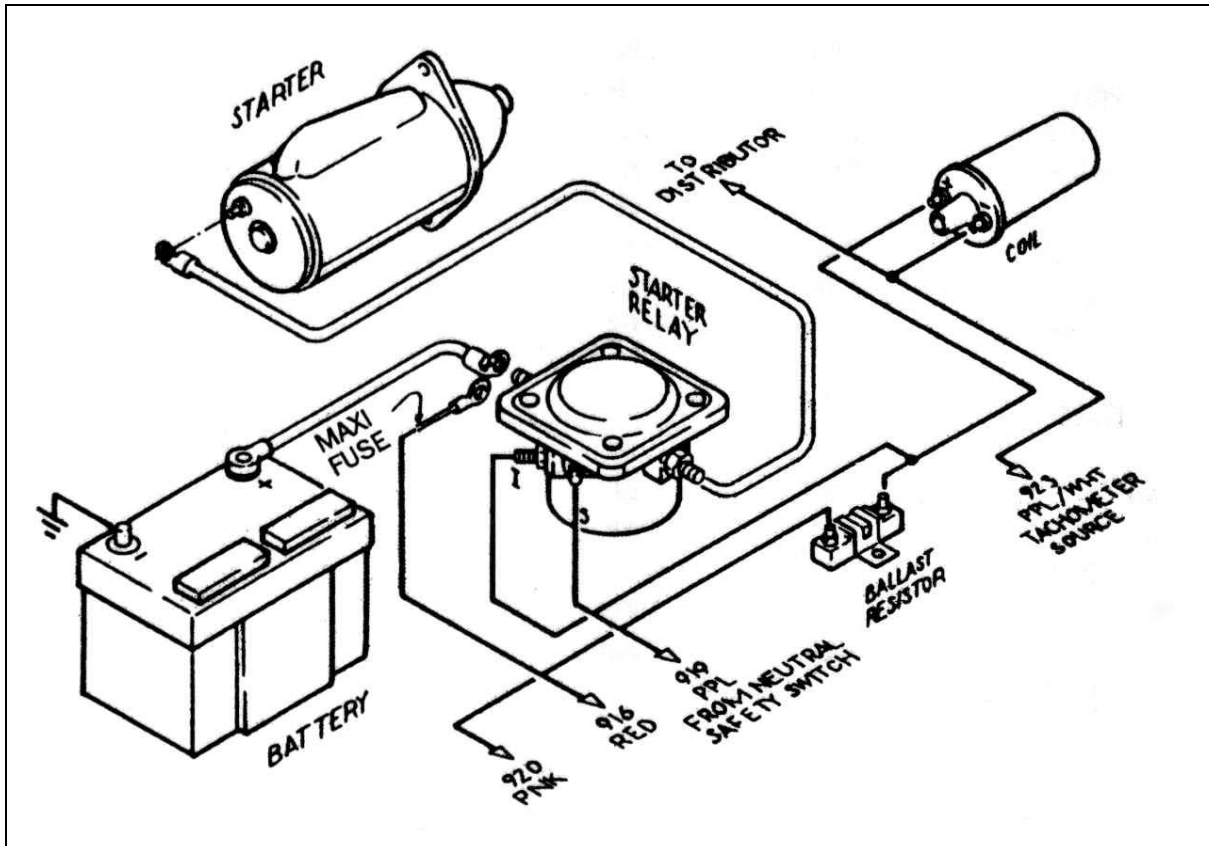

Figure 3-2 Ford Ignition (Start/Run) System
3.2 Ford Ignition (Start/Run) System. See Figure 3-2.